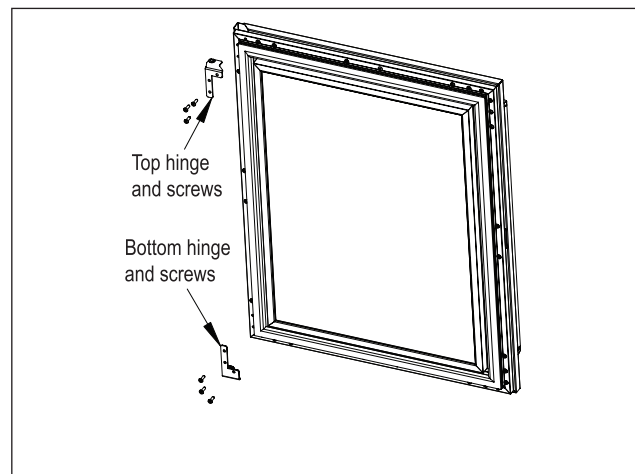

Figure 14. Door Hinges
11). Attach the top and bottom hinges and push plunger using screws removed in step 6 (Fig. 14).